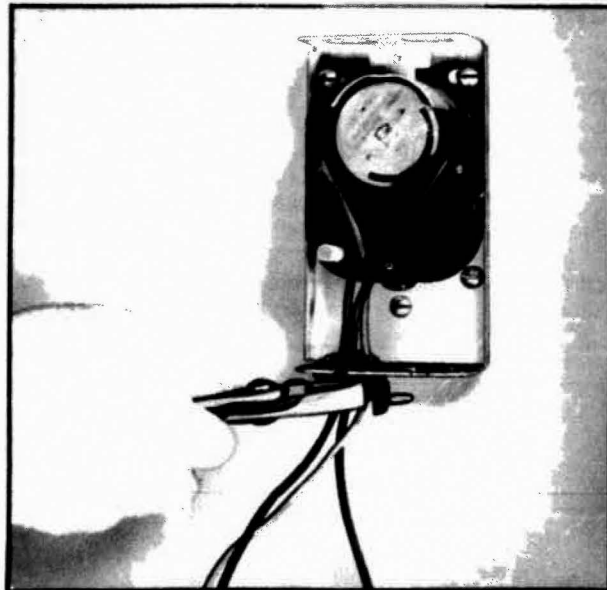

FIG. 8—CLOSING THE STRAIN RELIEF BUSHING.
4. When the wires have been connected to the control, close the movable gate on the strain relief bushing. Use a channel lock pliers to snap the gate shut (Fig. 8).